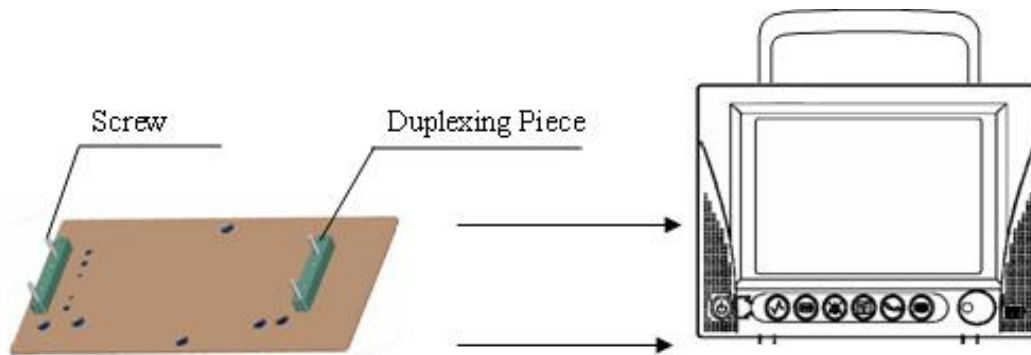

Figure 2-3
6. Face the side with duplexing piece of the device holding plate to the underside of the M8B, fix it with M4×25mm screw (as shown in Figure 2-3).